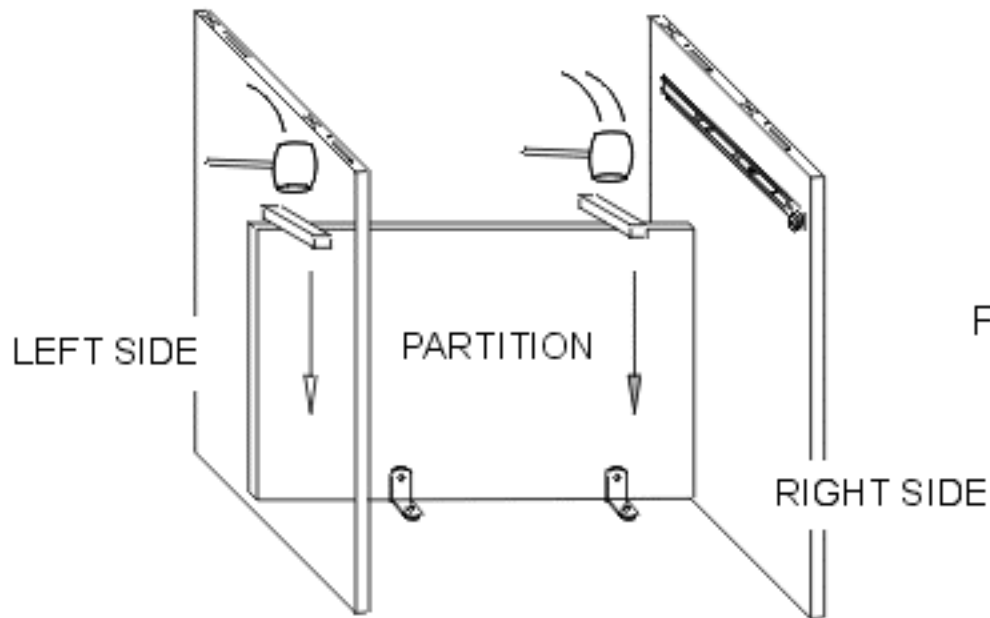

FIG. 1
With ELL BRACKETS as shown (FIG. 1), engage the (2) CLIPS in right edge of the PARTITION onto the (2) SHOULDER SCREWS on the face of the RIGHT SIDE. Engage the (2) CLIPS in the opposite edge of the PARTITION onto the (2) SHOULDER SCREWS on the face of the LEFT SIDE. With CLIPS engaged and using WOOD BLOCK, hammer PARTITION downward until the MOD-EEZ CLIPS are fully engaged, bottom of PARTITION near flush to bottom of SIDES. (FIG. 1)